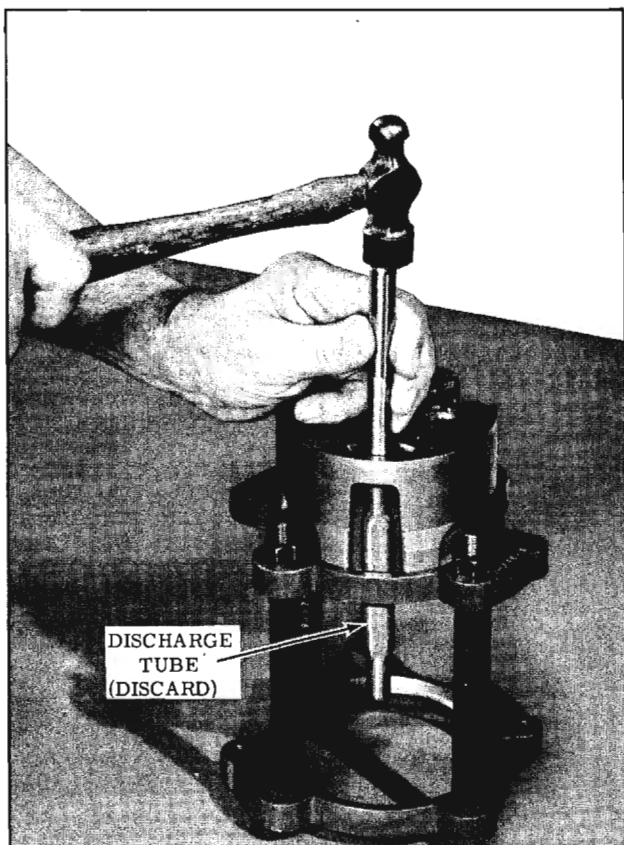

Fig. 15-71 Removing Discharge Tube
4. Remove and discard the discharge tube. (Fig. 15-71)